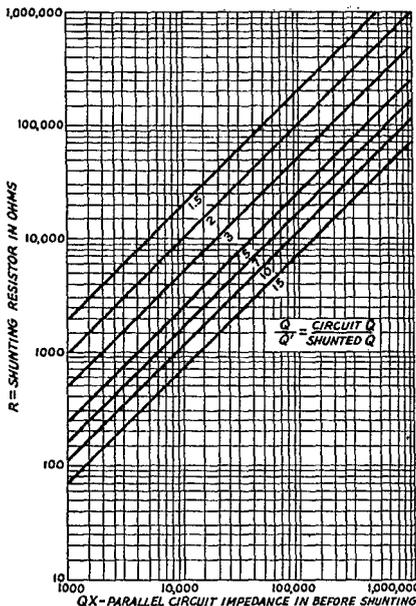

Fig. 5 — Chart based on Eq. (16) showing values of shunting resistance required to obtain a desired Q .
where X is the reactance of the coil or condenser in the tuned circuit at the resonant frequency. A graph of Eq. (16) is given in Fig. 5. If in the example just given above $Q_1 = Q_2 = 120$, the circuits could be shunted with resistances to reduce the Q to the desired 36.5. $\frac{Q}{Q'} = 3.29$, and if the coil reactance is 1200 ohms, then QX is 144,000 ohms. From Fig. 5 the shunting resistor, R , should be 52,000 ohms.